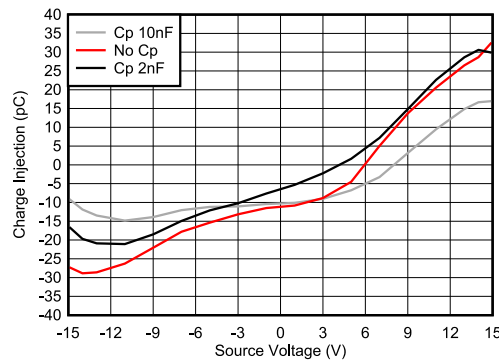

Figure 8-3. Charge Injection Compensation
The TMUX6219-Q1 contains specialized architecture to reduce charge injection on the source (Sx). To further reduce charge injection in a sensitive application, a compensation capacitor (Cp) can be added on the drain (D). This will ensure that excess charge from the switch transition will be pushed into the compensation capacitor on the drain (D) instead of the source (Sx). As a general rule of thumb, Cp should be 20× larger than the equivalent load capacitance on the source (Sx). Figure 8-3 shows charge injection variation with source voltage with different compensation capacitors on the Drain side.